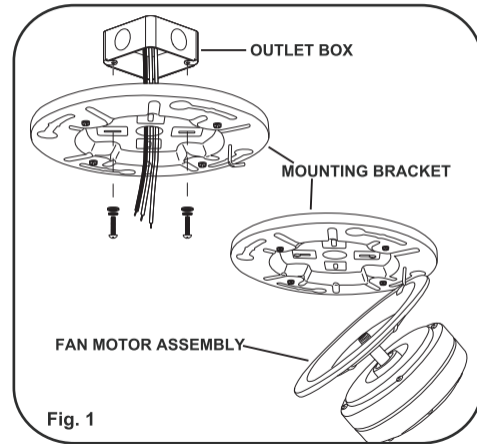

Fig. 1
**Step 1.** Attach the mounting bracket to the outlet box with two screws and washers provided with the outlet box. Make sure the bracket is tight and secured. (Fig. 1)
**Step 2.** Lift fan into position by hanging the motor assembly onto the hook from the ceiling mounting bracket allowing it to hang freely. (Fig. 1)